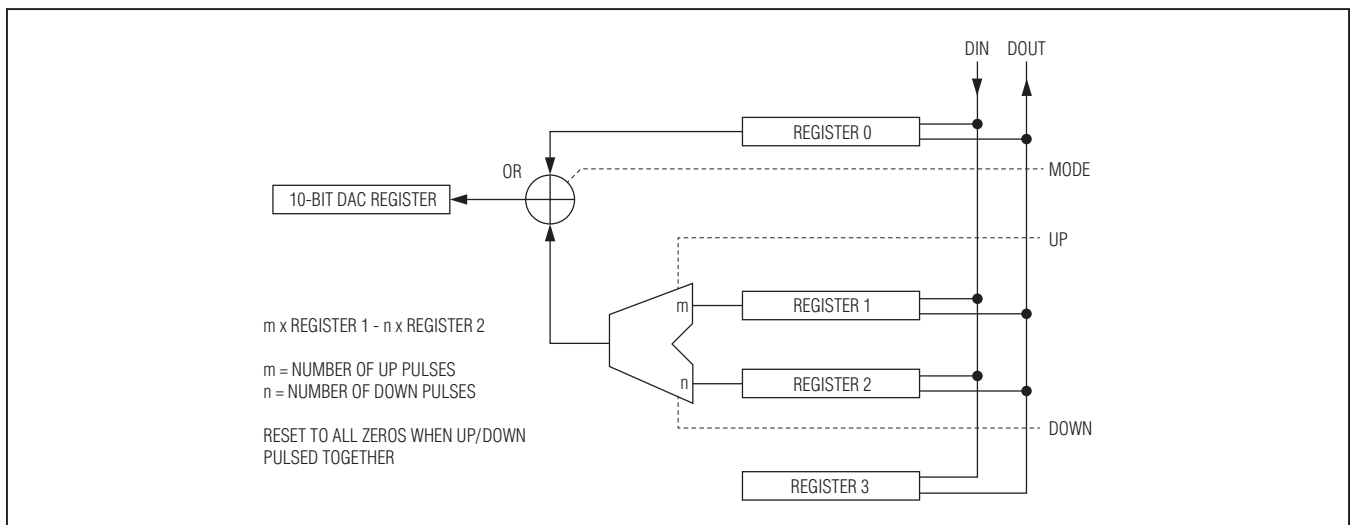
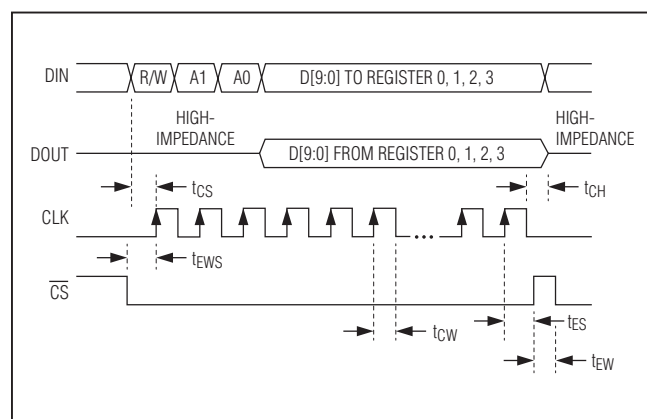
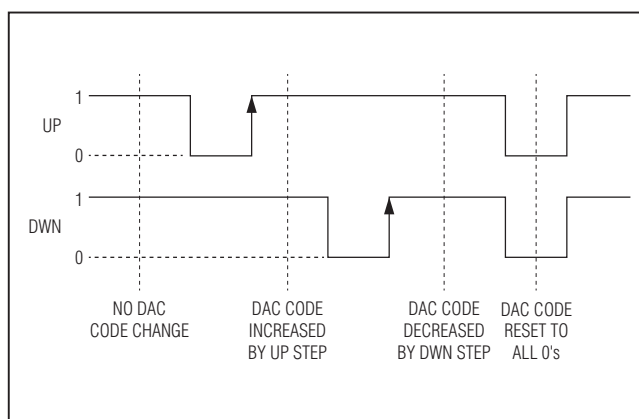

Figure 1. Register Configuration Diagram
Figure 2. SPI Timing Diagram
Figure 3. UP/DWN Control Diagram (MODE = 1)
Figure 1 shows the configuration of the internal registers of the device and Figure 2 shows the timing of the SPI bus. Register 0 sets the DAC code to the desired value, register 1 selects the step-up code, and register 2 selects the step-down code.
After powering up the device, UP and DWN should both be set to 0 to reset the m and n counters to 0. This results in a 10-bit all 0 code out of the mathematical block in Figure 1, and applied to the 10-bit DAC register that drives the DAC. To increase (decrease) the code using the UP (DWN) pin, the DWN (UP) pin must be high and the UP (DWN) pin should be pulsed low to high. The device is designed to produce no wraparounds when using UP and DWN stepping so that the DAC code maxes out at 1023 or goes no lower than 0. See Figure 3 for the UP and DWN control operation.
The device can be controlled with a 4-wire, SPI-compatible serial interface. Figure 2 shows a timing diagram for the interface. In the write mode, a 13-bit word is loaded into the device through the DIN pin, with $\overline{\text{CS}}$ set low. The first bit of the word in the write mode is 0, and the next two bits select the register to be written to (Table 2). The next 10 bits contain the data to be written to the selected register. After the 13 bits are shifted in, a low-to-high $\overline{\text{CS}}$ command is applied and this latches the 10 bits into the selected register. The entire write command is ignored if $\overline{\text{CS}}$ is pulsed low to high before the last data bit is successfully captured.
| Logic 0 pulse | Logic 1 | Increase the DAC code* by the amount located in register 1. UP is pulsed from high to low to high (see Figure 3). |
| Logic 1 | Logic 0 pulse | Decrease the DAC code* by amount located in register 2. DWN is pulsed from high to low to high (see Figure 3). |